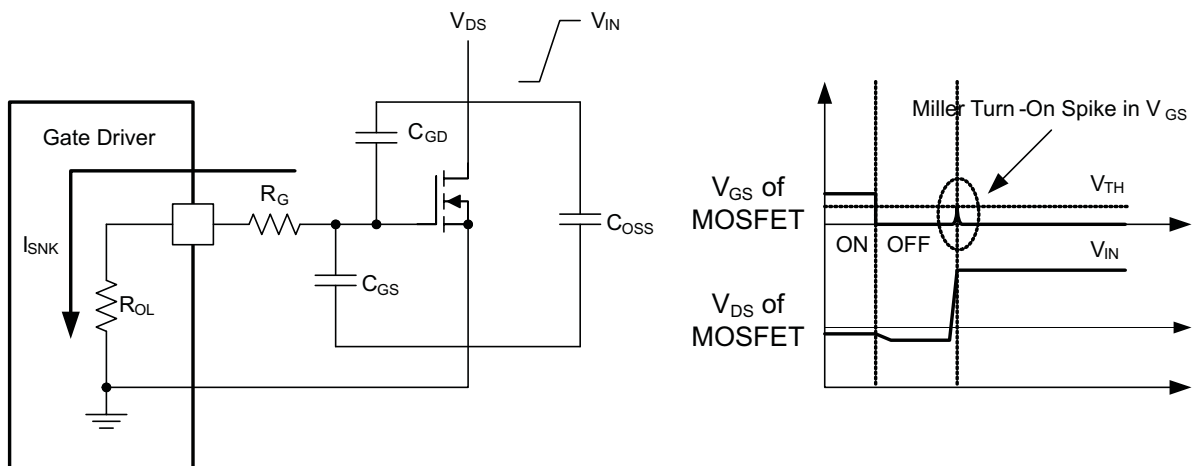

图 40. Low Pull-Down Impedance in UCC2753x (Output Stage Mitigates Miller Turn-On Effect)
An example of a situation where Miller turnon is a concern is synchronous rectification (SR). In SR application, the dV/dt occurs on MOSFET drain when the MOSFET is already held in OFF state by the gate driver. The current charging the C_{GD} Miller capacitance during this high dV/dt is shunted by the pull-down stage of the driver. If the pull-down impedance is not low enough then a voltage spike can result in the V_{GS} of the MOSFET, which can result in spurious turnon. This phenomenon is illustrated in 图 40.